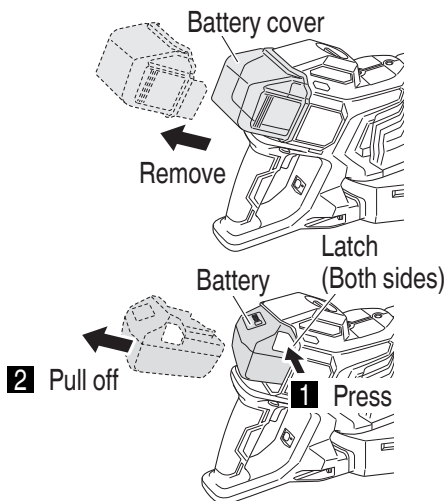

Fig. 8
When removing the battery from the tool, press down the latches on both sides and slide off the battery. (**Fig. 8**)
5. Removing and inserting the battery cover and battery (Fig. 8, 9 on page 47)